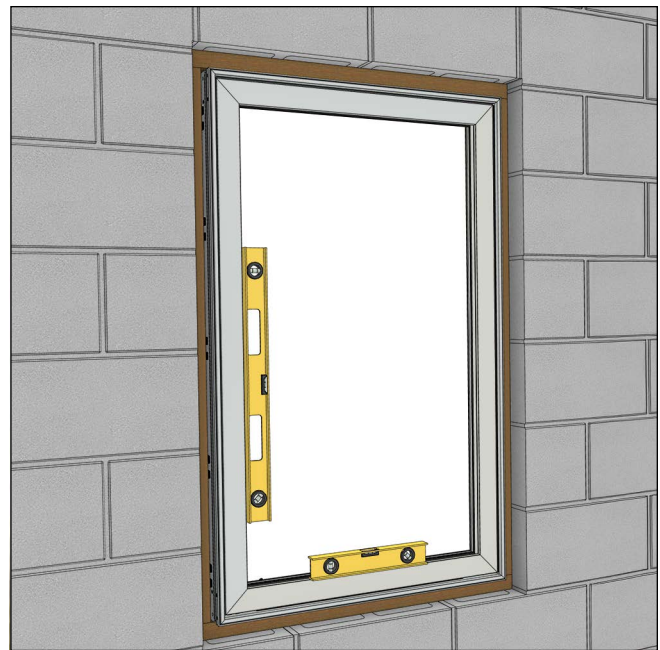

Figure 32
6. Center the window in the opening. Level at the sill and plumb the frame (interior/exterior). See Figure 32.